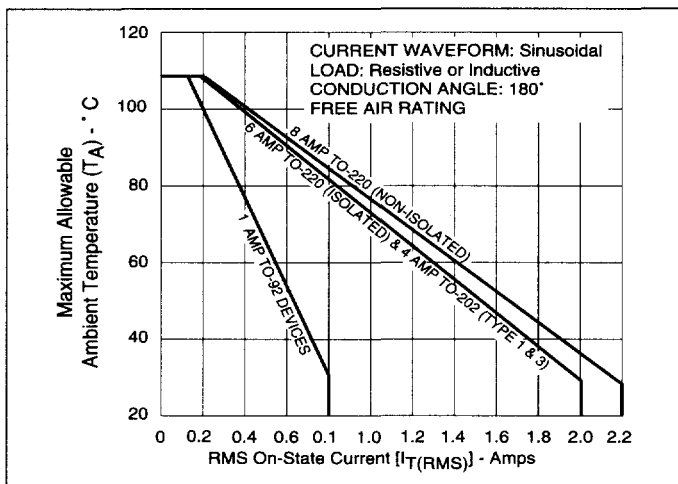

Figure 6.1 Maximum Allowable Ambient Temperature vs RMS On-State Current
- (2) See Figures 6.1 and 6.2 for free air current rating.